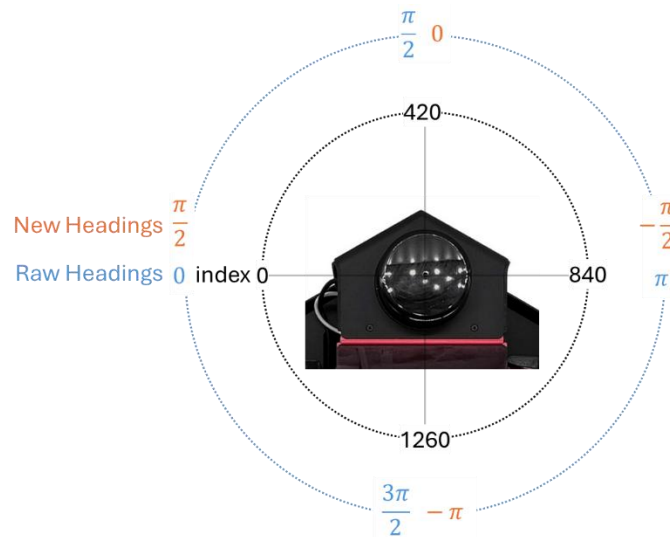

Figure 1. LiDAR measurement correction
3. Notice in `adjust_and_subsample()` under `QBPRanging()`, heading angles from the LiDAR sensor are multiplied by  $-1$  and added to  $\pi/2$ . This is to correct the headings such that the angle value of  $0$  corresponds to the front of the QBot, as shown in Figure 1. In addition, the angles are now increasing counterclockwise, consistent with the positive convention of our reference frame. Furthermore, this function returns every 4th element in the distance and angle data, effectively downsampling these signals fourfold. Downsampling is beneficial in the obstacle detection application as it allows for faster computation when high resolution is not necessary.